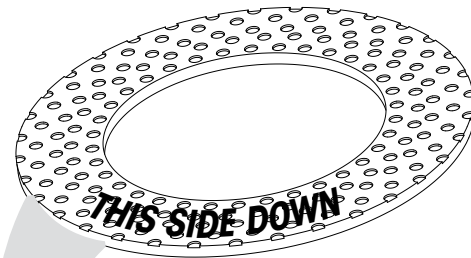
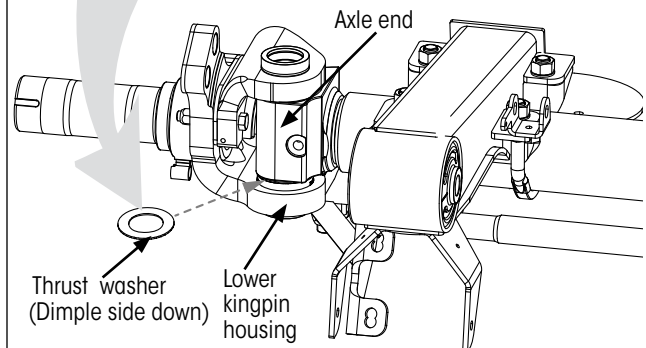

Figure 28: Thrust Washer
Figure 29: Installing thrust washer (Axle configuration may vary)
7. **Insert** thrust washer, dimples facing down (Figure 28), between lower kingpin housing assembly and axle end (Figure 29).